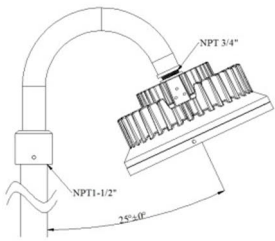

Figure 7
- ☞ Tighten tube locking set screw to conduit, 1.0 N-m. (Figures 7, 8)